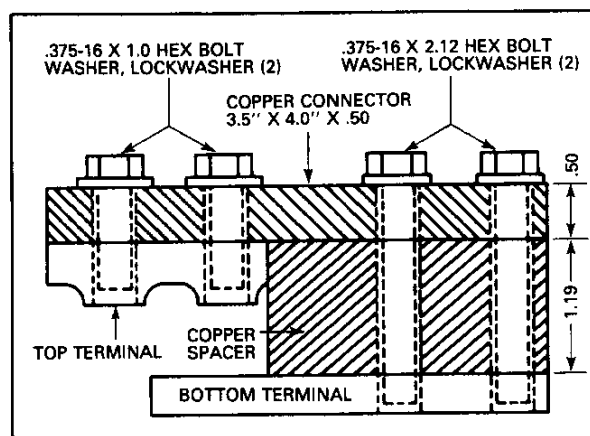

Fig. 4 Side View of Terminals with Spacer and Connector After Removal of Electro-mechanical Trip Units
- Review the illustrations to acquaint yourself with the items and location, especially the right and left side view of the breaker, Figs. 4, 6, 7, 9 and 10.
*Note: Kits contain more hardware than required due to multi-purpose use, check right and left side views for number and size of hardware. Figs. 4, 6, 7, 9 and 10.
- Remove the three (3) electro-mechanical trip units.
- Place the $2\frac{1}{8}'' \times 2\frac{1}{8}'' \times 1\frac{1}{8}''$ copper spacer in a position to line up with the two (2) .375 holes on the stationary bottom copper terminal. Place the $3\frac{1}{2}'' \times 4'' \times \frac{1}{2}''$ copper connector over the copper spacer and over the upper stationary terminal, line up the holes of the copper connector with those of the spacer and upper terminal. Secure the connector to (See Fig. 4) the upper terminal using .375 x 16 x 1.0 hex bolt, lockwasher, and flat washer. Now secure the connector to the spacer and lower terminal using .375 x 16 x 2.12 hex bolt, lockwasher and flat washer.